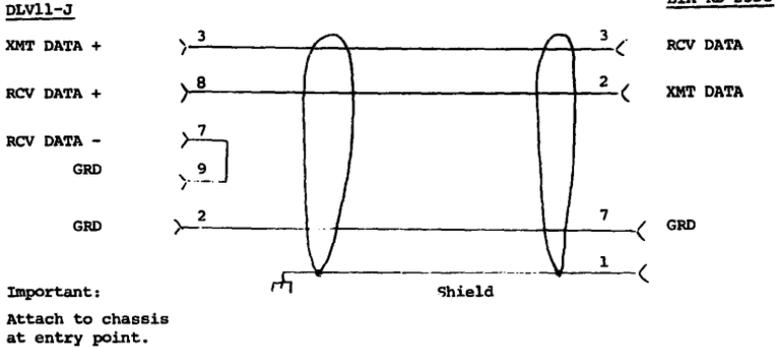

Figure 8 BC20N-05 "Null Modem" Cable
- BC20N-05** 5' EIA RS-232C null modem cable to directly interface with an EIA RS-232C terminal (2 \times 5 pin Amp female to RS-232C female; see Figure 8).
2. To directly connect to a local EIA RS-232C terminal, it is necessary to use a null modem. To design the null modem into the cable, one must switch RECEIVE DATA (pin 2) with TRANSMITTED DATA (pin 3) on the RS-232C male connector as shown in Figure 8.